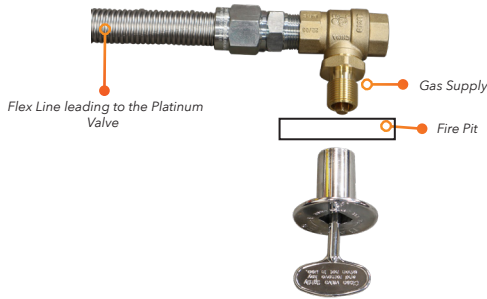

Figure 23: Connecting the Flex Line from the Platinum Valve to the Key Valve
6.5 Mount the key valve and escutcheon plate to your fire pit, and then take the other end of the flex line and screw it into the flared end of the flared fitting on the key valve, connecting the key valve to the Platinum Valve. Do not use thread sealant. Tighten with a wrench to avoid leaks. **{See Figure 23}** The other end of the key valve will then connect to your gas supply.